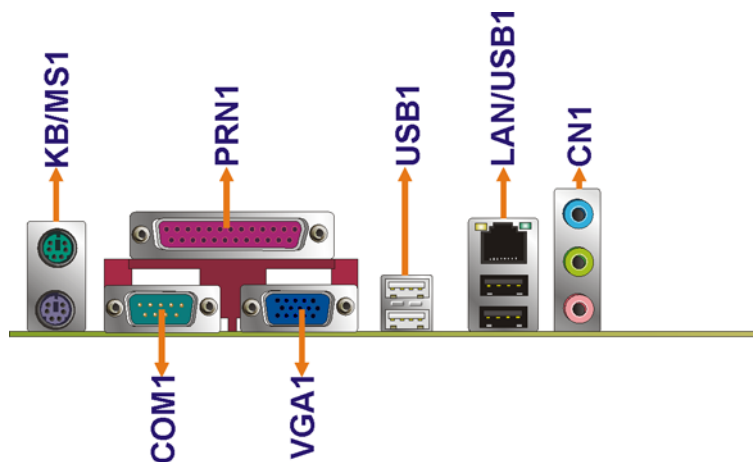

Figure 4-22: IMBA-8650 External Interface Connectors
CN Location:	See Figure 4-22
- CN Location:** See **Figure 4-22**
CN Location: See **Figure 4-22**
- CN Location:** See **Figure 4-22** (labeled 6)